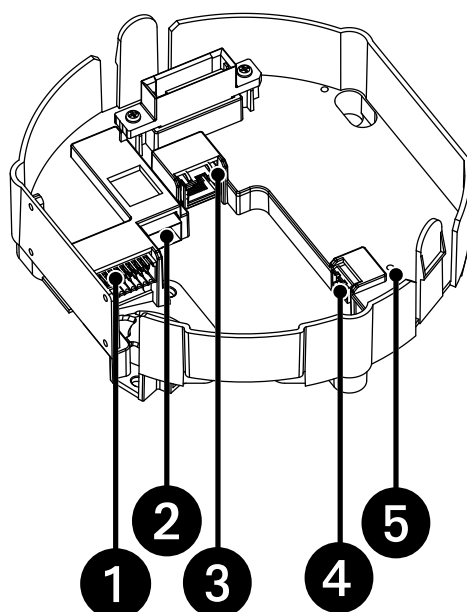

Figure 4. Wiring Connections
4. Connect the power wiring. Refer to Figure 4 and the Wiring section for more information.